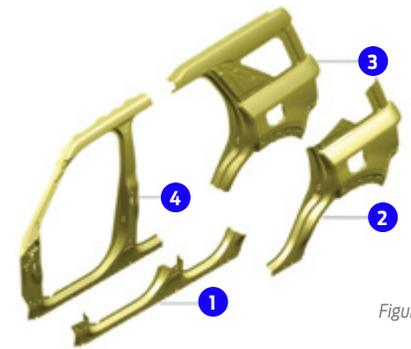

Figure 2
### Body-Side Outer Panels (Figure 2)
4. On both sides, apply metal bonding adhesive (TA-1, TA-1-B, 3M™ 08115, Lord Fusor® 108B) and then install, properly position and clamp the outer wheelhouse. Use the 6.5 mm drill bit to make guide holes in the outer wheelhouse for the blind rivets. (Figure 2)